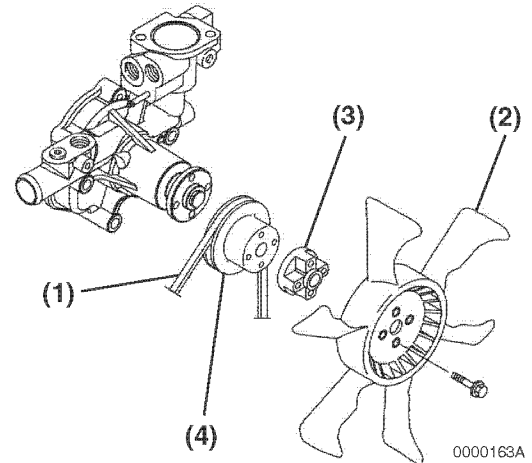

Figure 7-7
2. Remove the engine cooling fan guard (if equipped), engine cooling fan (Figure 7-7, (2)), spacer (Figure 7-7, (3)) if equipped, V-pulley (Figure 7-7, (4)) and cooling fan V-belt (Figure 7-7, (1)).